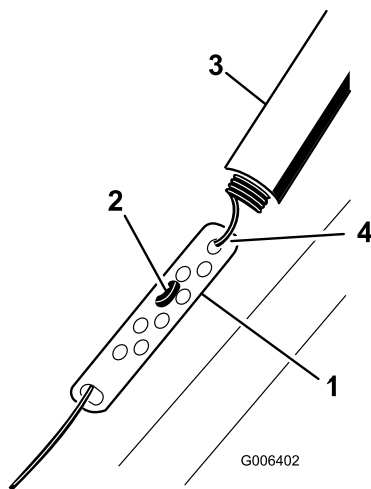

Figure 21
1. Slide up the spring cover and unhook the spring from the adjuster link (Figure 21).
mm (1/16 to 1/8 inch) gap between the control bar and the handle (Figure 21).